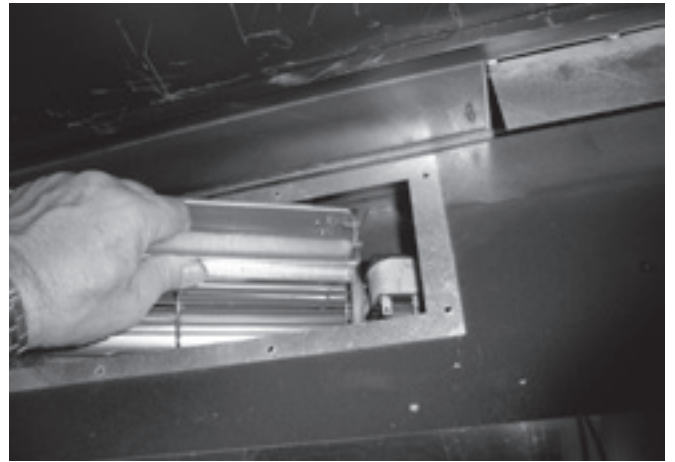

Figure 21
18. Using gloves, insert the left hand blower assembly (without wires leads attached) down through the left hand rectangular cutout in the firebox bottom. Position the blower so the motor is to the right with the air discharge pointing upward. Set the blower on the bottom of the fireplace and also as far rearward as it can go. The magnets on the blower base bracket will retain the blower assembly in the correct position against the rear wall of the fireplace outer wrap. **See Figure 21**.